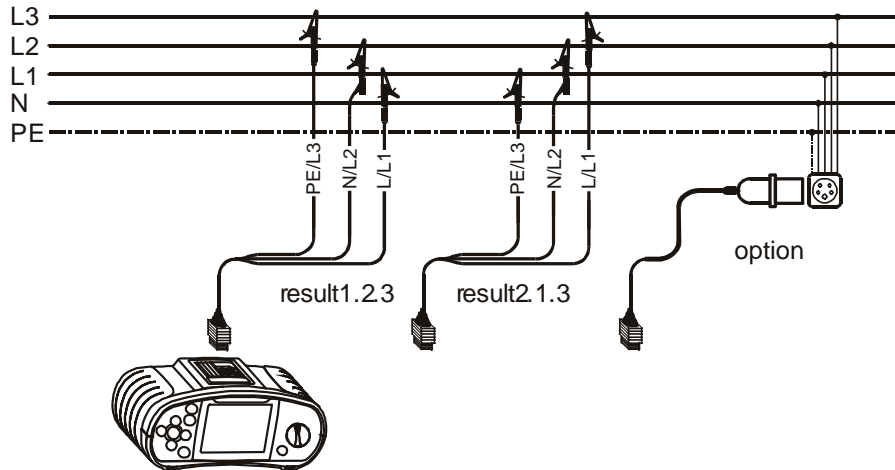

Fig. 5.37: Connection of universal test cable and optional three phase cable
Step 2 Follow the connection diagram shown in figure 5.37 to test phase sequence.